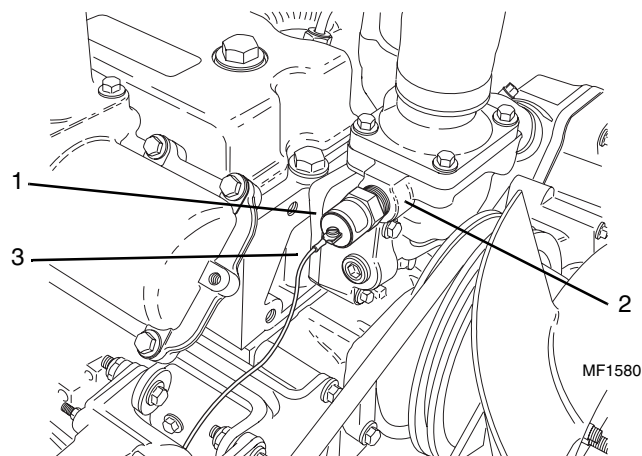

Figure 10-94 Engine Water Temperature Wiring
25. Install the water temperature switch (Fig. 10-94, 1) to the thermostat housing (2), and connect light blue wire #8 (3) to the water temperature switch (1).